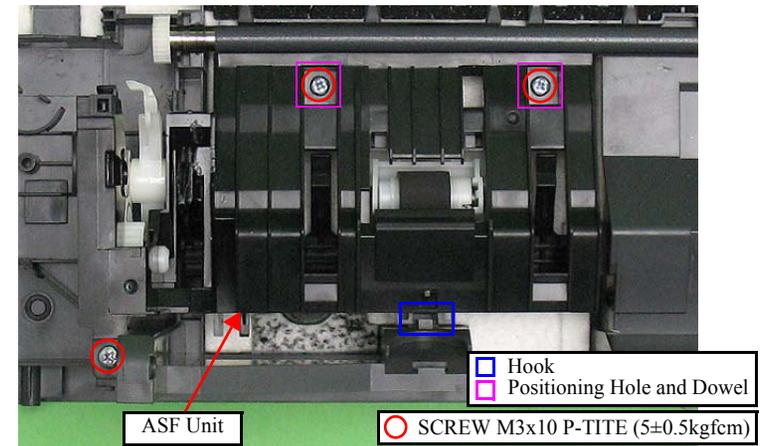

Figure 4-92. Removing the ASF Unit
- When installing the ASF Unit, insert the guide pin of the Lower Housing to the positioning hole of the unit, and secure the unit with the hook of it and the three screws. (See Fig.4-92.)